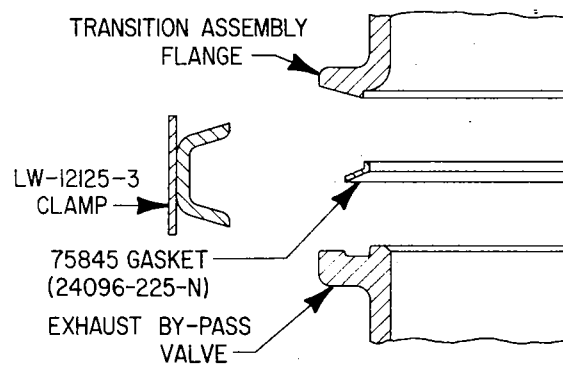

Figure 2. Diagram of Section Thru Transition and Exhaust Bypass Valve Showing Details of Clamp and Gasket Assembly
4. Place the gasket P/N 75845 in its proper position between the two mating flanges. Be sure it is seated firmly. Also be sure it is not upside down; that is, the straight, vertical side must face upward. See figure 2.